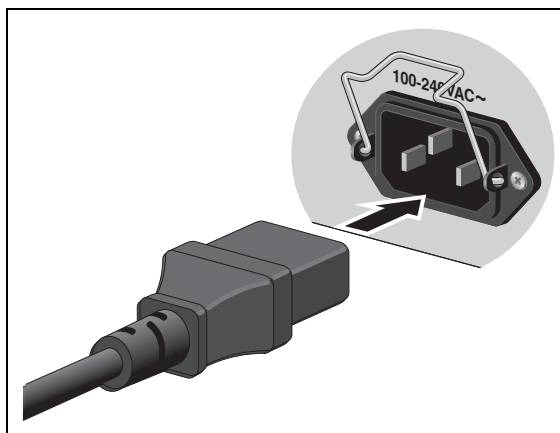

Figure 29. Connecting the AC Power Cord
2. Plug the power cord into the AC power connector on the rear panel of the unit, as shown in Figure 29. Lower the power cord retaining clip to secure the power cord to the unit.